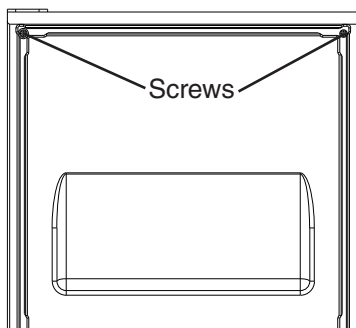

Fig. 18
- 9) Temporarily fasten the overlay panel to the door using 2 of the M4x25 pan head screws provided. **NOTICE! Ensure that the back surface of overlay panel is flat before attaching.** See Fig. 18.